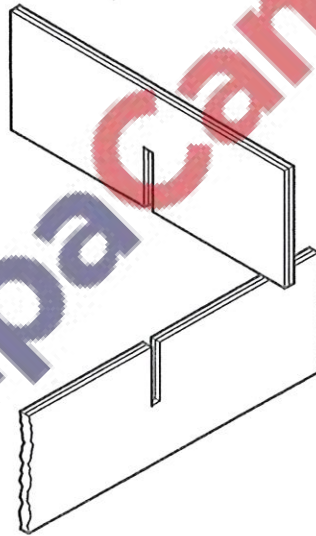

Fig. 12.2
- (c) Fig. 12.2 shows a cross-halving joint used so that the partitions can fit together and be removed.